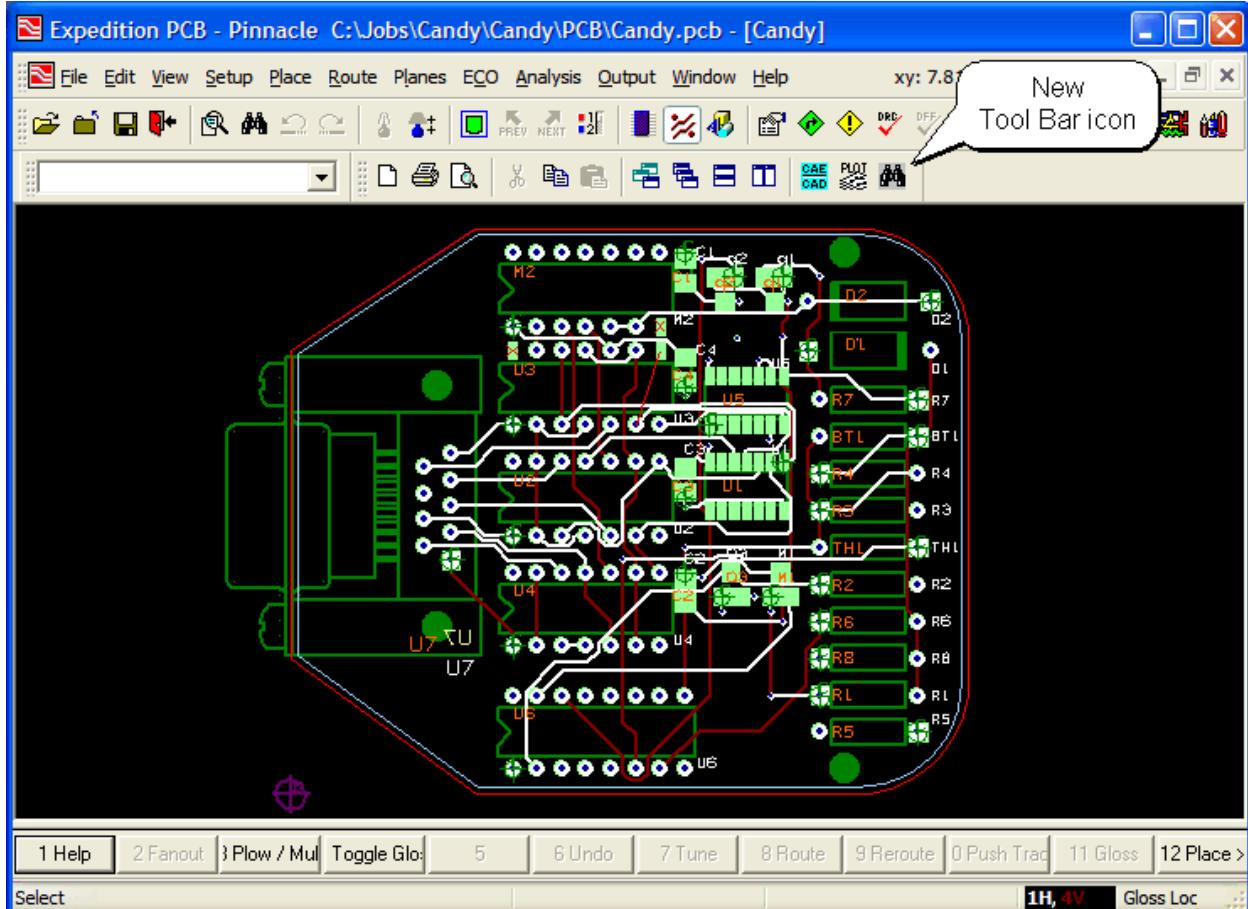

Figure 7-3. The new Via Count icon on the Utilities menu.
- 2) At this stage you may open a layout design of your choice, however, you are not obliged to do so – see also point (6).
- 5) Observe that after you've run this script a new icon appears on the **Utilities** tool bar as illustrated in Figure 7-3.